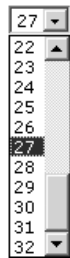

Figure 6-17 — Output selection drop box
1. Click the Output drop box. A drop-down scroll box appears (figure 6-17).